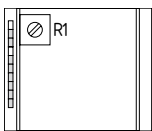

Fig. 3
- Connect a voltmeter to output L84 and the 0V potential and turn the lamp trimmer R1 (Fig. 3) until the signal condition of output L84 changes from 24V to 0V.